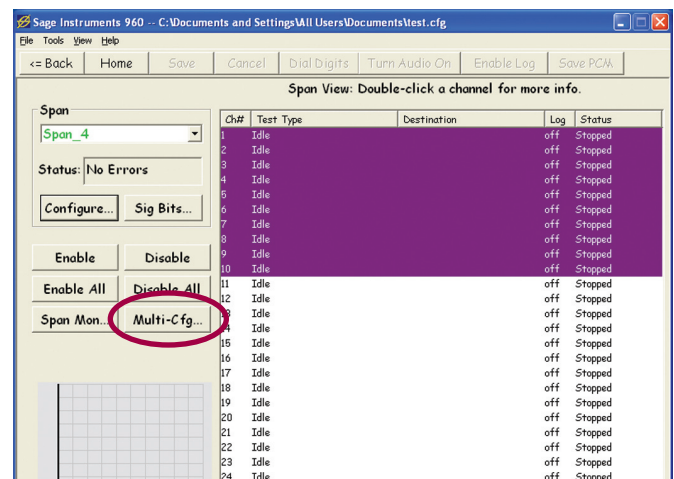
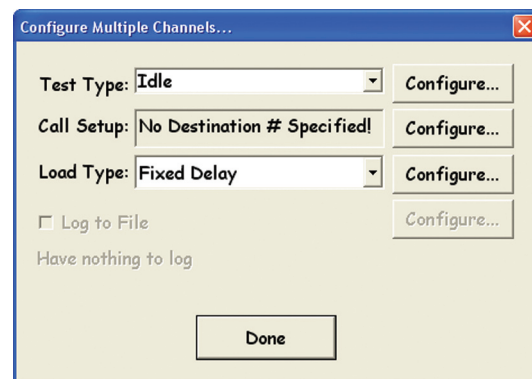

Figure 2.3.2 Multiple Channel Selection
Figure 2.3.3 Multiple Channel Dialog
The Span View window can be used to setup and control tests on multiple channels. To select multiple channels to test click on the first channel, then hold the shift key and click on the last channel. This will highlight the range of channels selected as shown in Figure 2.3.2. Once the channels are selected click on the **Multi-Cfg..** button circled in Figure 2.3.2. This will launch the Configure Multiple Channels dialog box shown in figure 2.3.3.
G. Click on the **Enable** button of the Span View window shown in Figure 2.3.2 to start the tests.